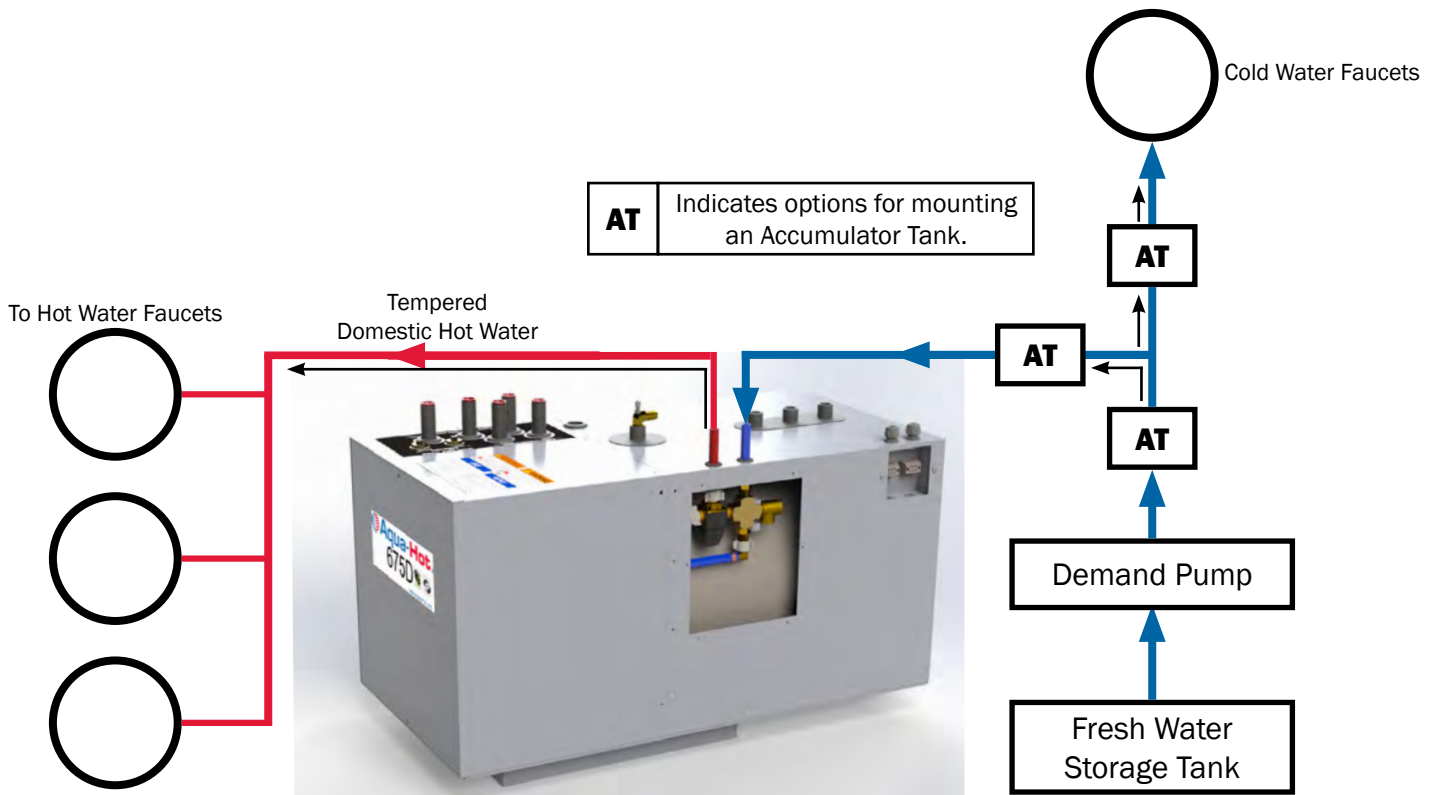

Figure 49
- Plumb the domestic water system according to Figure 49.
Please note it may be necessary to utilize an accumulator tank within the domestic water system. Reference Figure 49. Although the 675D is equipped with a pressure relief valve, the use of an accumulator tank will help prevent excessive “weeping” of the valve. Manufactured pressure relief valves will cause the “seat” in the valve to deteriorate, which can cause the valve to fail permanently. Be sure to reference the RVIA’s (Recreational Vehicle Industry Association) technical publication titled “Recreational Vehicle Plumbing Systems”. To obtain a copy of this publication, contact RIVE at (730) 620-6003 or visit them online at www.rvia.org.